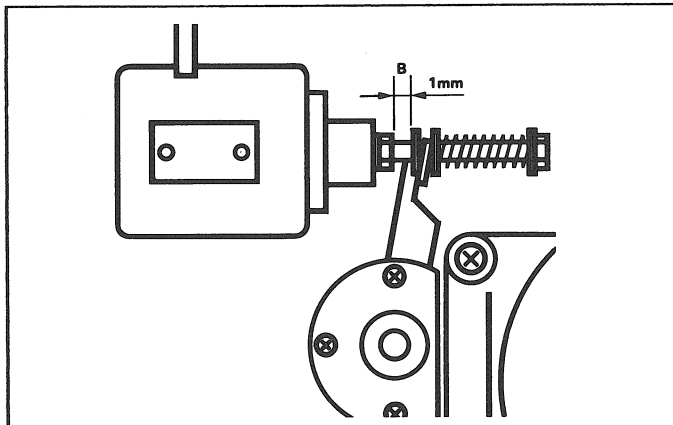

Fig. 5
- With tape present. Attach a piece of nylon string to the pinch roller shaft (or to a pin attached to it) and pull with a spring dynamometer in the direction A (Fig. 5) until the pinch roller lifts off the capstan shaft wuw and flutter becomes audible. The spring dynamometer should indicate  $10\text{ N} \pm 1\text{ N}$  ( $1\text{ kp} \pm 0.1\text{ kp}$ ).
- Shift the pinch roller solenoid to the right so that a distance B of 1 mm (Fig. 5) is created between the driver and the pinch roller arm. Retighten the pinch roller solenoid.
- Secure the fixing screws of the pinch roller solenoid with a drop of locking paint. Check the pinch roller force and adjust it with screw C (Fig. 5) if necessary.